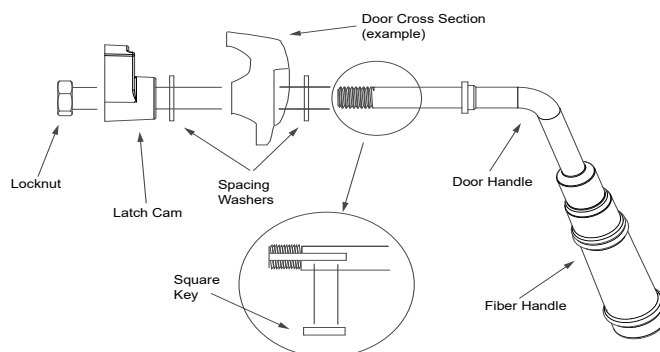

Figure 20.1
2. Install additional washer(s) as shown in **Figure 20.1**
6. Install fiber handle (**Figure 20.1**).